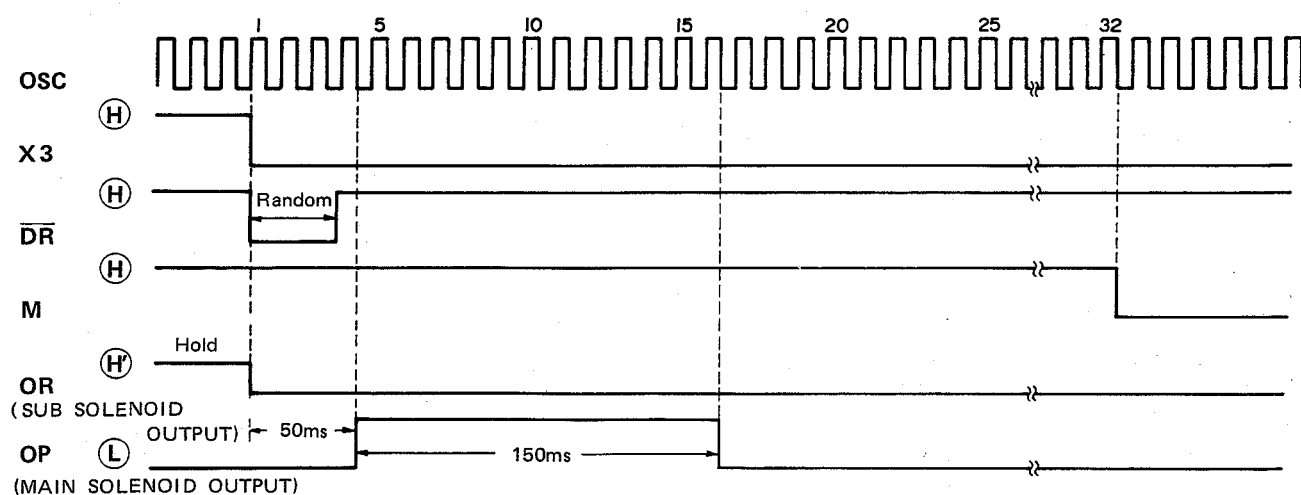

Fig. 5
- ### 5) Operation at tape end (Fig. 5)